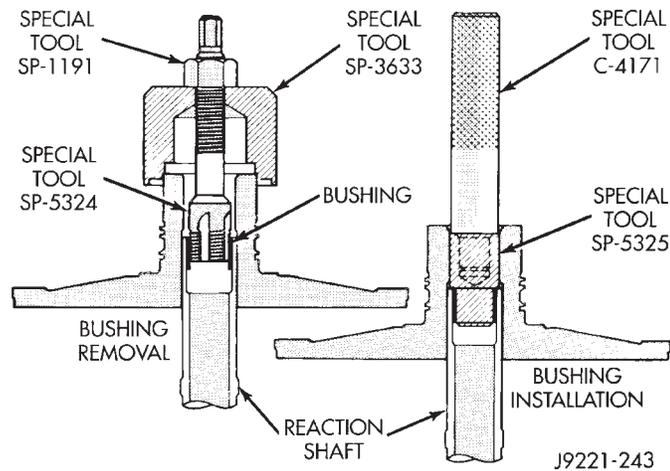

Fig. 170 Replacing Reaction Shaft Support Bushing
- (1) Assemble Bushing Remover Tools SP-1191, 3633 and 5324 (Fig. 170). **Do not clamp any part of reaction shaft or support in vise.**
- (2) Hold Cup Tool SP-3633 firmly against reaction shaft and thread remover SP-5324 into bushing as far as possible by hand. Then thread remover tool 3-4 additional turns into bushing with a wrench.
- (3) Turn remover tool hex nut down against remover cup to pull bushing from shaft. Clean all chips from shaft after bushing removal.
- (4) Lightly grip old bushing in vise or with pliers and back remover tool out of bushing.
- (5) Assemble Bushing Installer Tools C-4171 and SP-5325 (Fig. 170).
- (6) Slide new bushing onto Installer Tool SP-5325.
- (7) Position reaction shaft support upright on a clean smooth surface.
- (8) Align bushing in bore. Then tap bushing into place until Bushing Installer SP-5325 bottoms.
- (9) Clean reaction shaft support thoroughly after installing bushing.